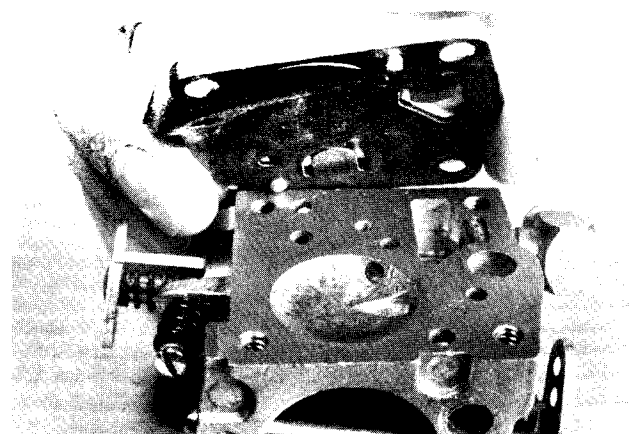

Fig. 60 — Removing/Installing Fuel Pump Diaphragm, Gasket and Cover
2. Remove fuel pump cover, gasket and diaphragm, Fig. 60.
9. Install fuel pump diaphragm, gasket and cover, Fig. 60.